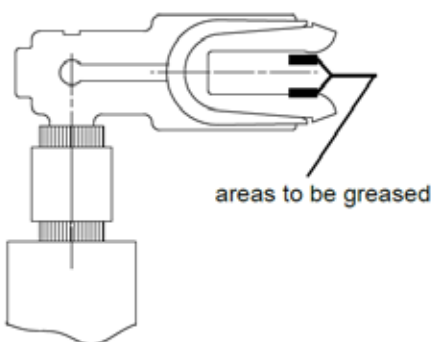

Fig. 55 Power contacts for withdrawable modules size 8E/4 and 8E/2 as well as the outgoing power contacts of the 4E-withdrawable modules
- For contact areas to be greased, see figures 55 and 56.